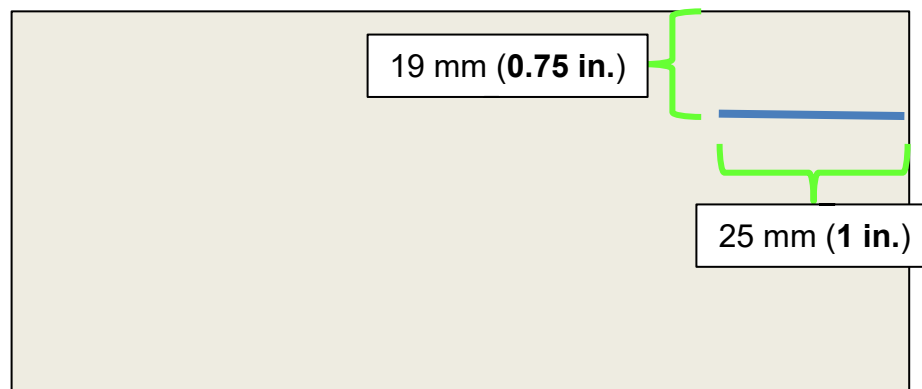

Figure 16
19. On the foil side of one (1) of the four (4) Butyl Patches, measure and mark a line, as shown in Figure 16, and then using scissors cut along the line.